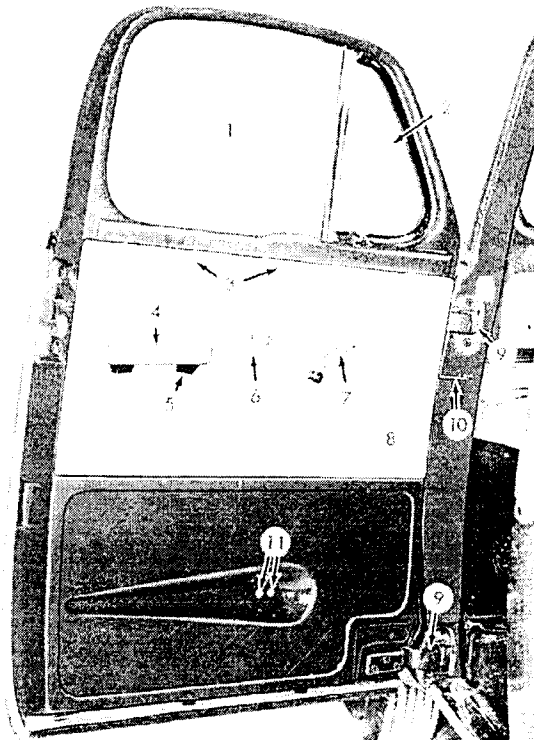

Fig. 20
File off the peened end of the door, check link rivet (10, Fig. 20) and drive out the rivet. Temporarily install a pin in the check link to prevent pushing the link inside the door. Remove the trim panel (8). Remove the hinge-to-door screws and remove the door.